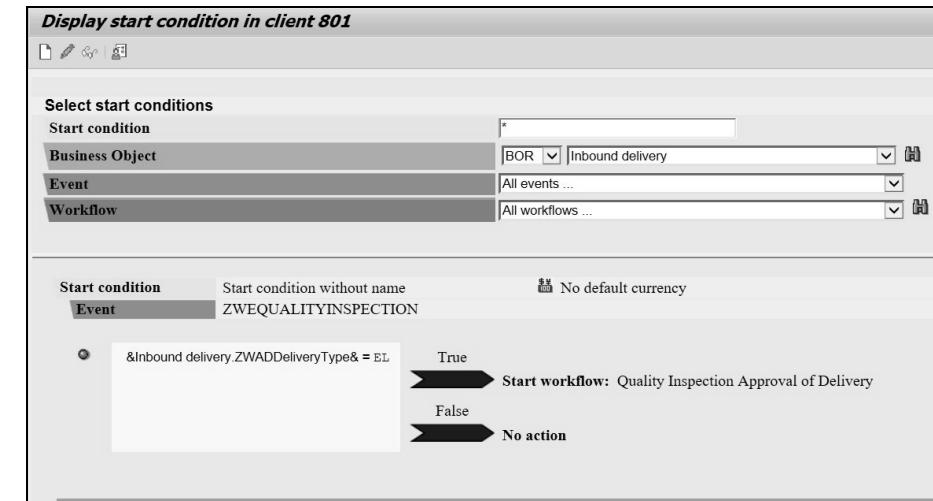

Figure 5.32 Creation of Start Condition for Event Linkage from Transaction SWB_COND
3. Now you can create the start condition using Delivery type attribute for the event linkage in Transaction SWB_COND. Figure 5.32 shows a view of the event linkage entry in Transaction SWB_COND before creating a start condition for the same. (You